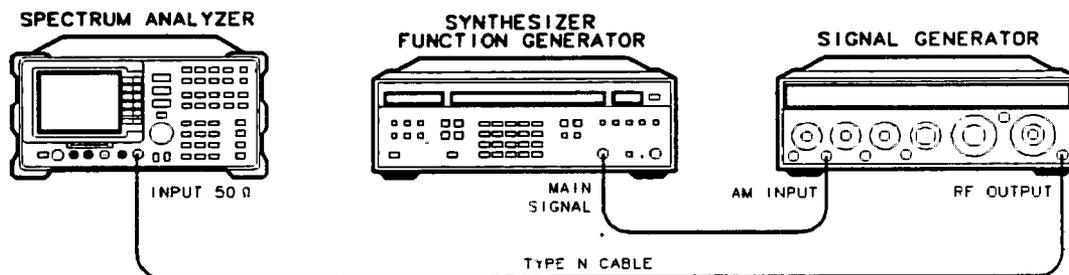

Figure 4-7. Sweep Time Accuracy Test Setup
3. Connect the equipment as shown in Figure 4-7.